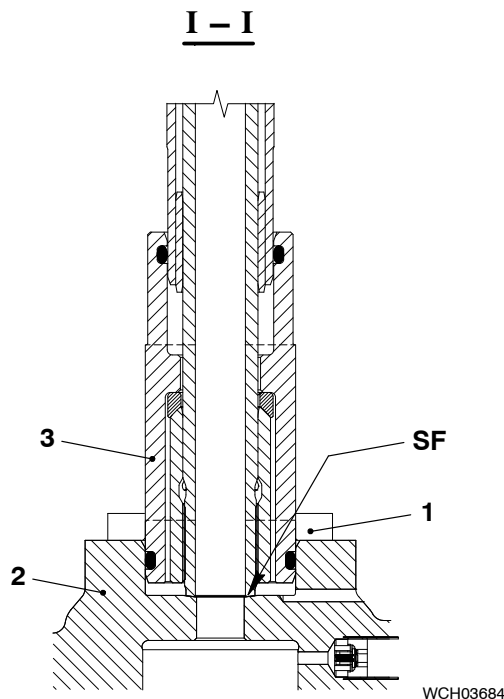

Fig. 3
- 1) Remove the four screws (1, Fig. 3) from the flange (3).
- 2) Carefully move the flange (3) away from the VCU (2).
- 3) Apply protection to the sealing faces (SF) to prevent damage and contamination.